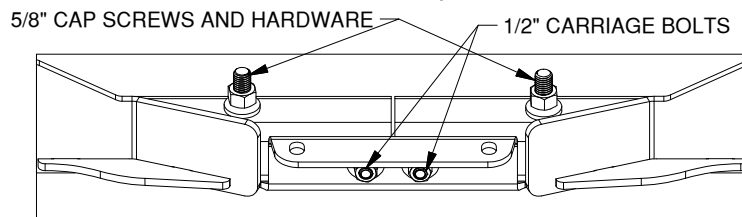

Figure C5: View looking up under the bed.
- Secure the cross member brace.** Locate two 5/8" x 4-1/2" cap screws, 5/8" flat washers, and finish nuts. Temporarily install the 5/8" hardware into the large holes in the cross members and the brace as shown in Figure C5. Tighten the 5/8" cap screws enough to ensure that the brace and the cross member tubes are flush. Tighten the two 1/2" nuts on the bottom of the cross member brace until the lock washers start to flatten. Remove the 5/8" cap screws and hardware.